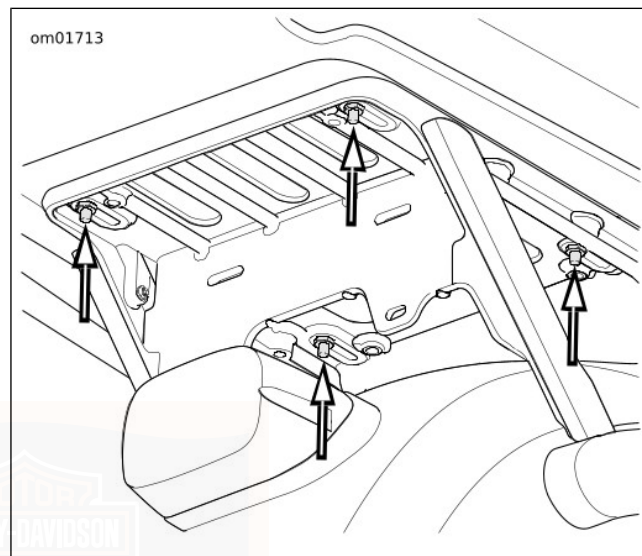

Figure 62. Tour-Pak Position Adjustment
1. See Figure 62. Loosen the four nuts securing the Tour-Pak to the support.